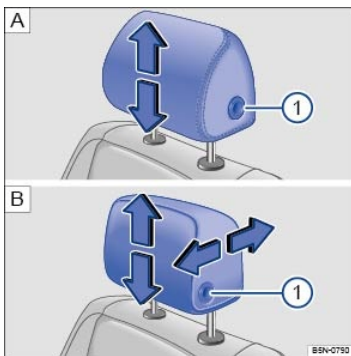
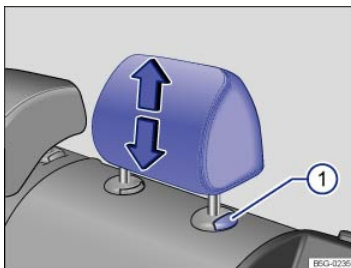

Fig. 82 Adjusting the front head restraints (versions and).
Fig. 83 Adjusting the rear head restraints.
- While pressing the button ⇒ Fig. 82Ⓐ or ⇒ Fig. 83Ⓐ, pull the head restraint up or push it down in the direction of the arrow ⇒ ⚠.
- While pressing the button ⇒ Fig. 82Ⓑ, move the head restraint forward and back.